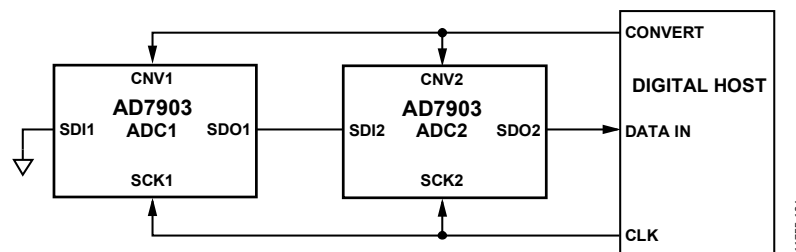
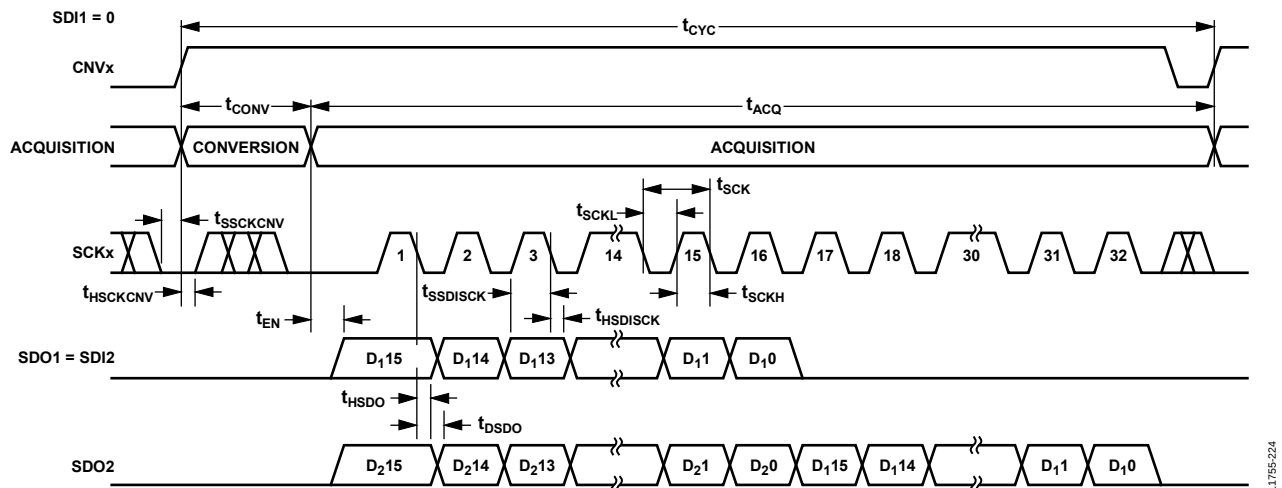
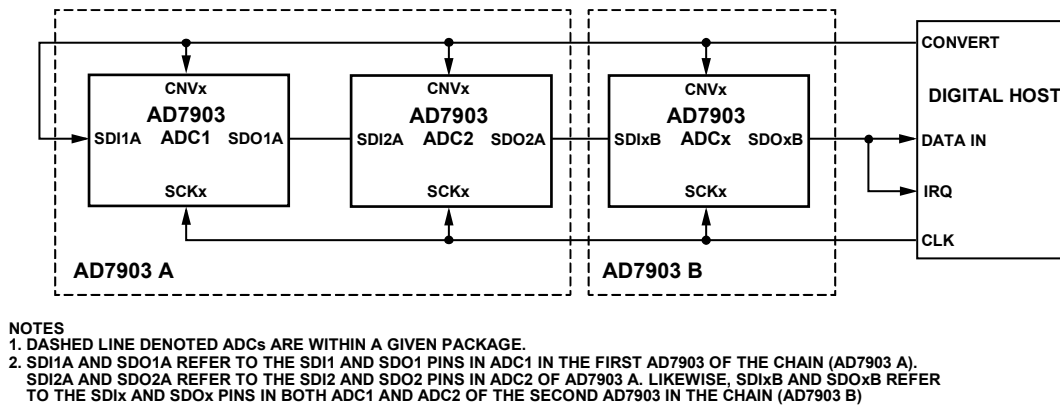
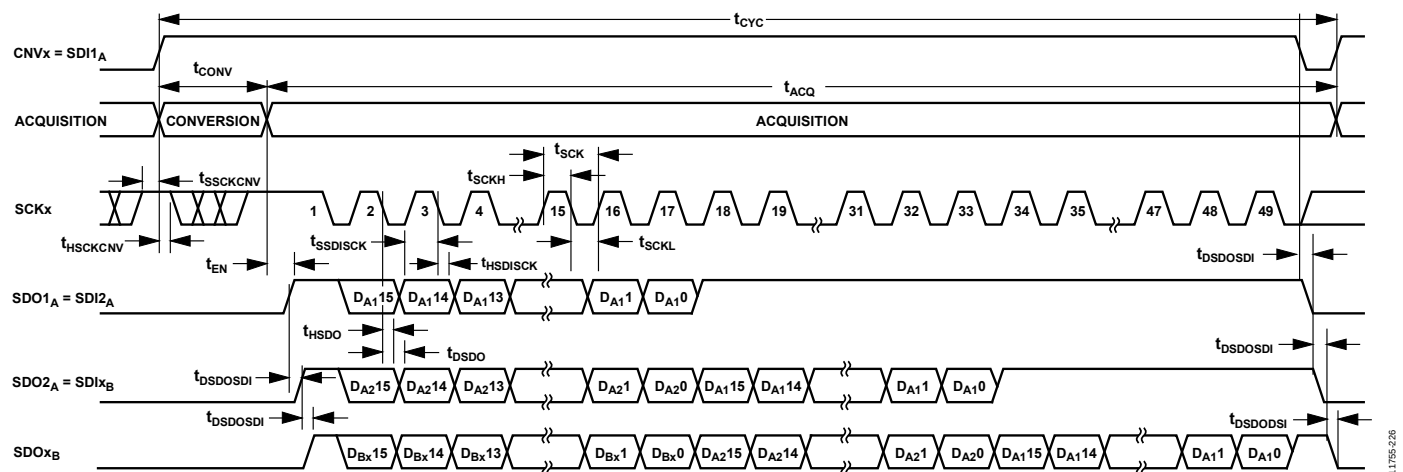

Figure 47. Chain Mode Without Busy Indicator Connection Diagram
Figure 48. Chain Mode Without Busy Indicator Serial Interface Timing
Figure 49. Chain Mode with Busy Indicator Connection Diagram
Figure 50. Chain Mode with Busy Indicator Serial Interface Timing
- In chain mode if SCKx is high during the CNVx rising edge (see Figure 50).
See Figure 47 for a connection diagram example using both ADCs in an AD7903. The corresponding timing is shown in Figure 48.
See Figure 49 for a connection diagram example using three AD7903 ADCs. The corresponding timing is shown in Figure 50.
conversions, the SDOx pin of the ADC closest to the digital host (see the ADC labeled ADCx in the AD7903 B box in Figure 49) is driven high. This transition on SDOx can be used as a busy indicator to trigger the data readback controlled by the digital host. The AD7903 then enters the acquisition phase and powers down. The data bits stored in the internal shift register are clocked out, MSB first, by subsequent SCKx falling edges. For each ADC, SDIx feeds the input of the internal shift register and is clocked by the SCKx falling edge. Each ADC in the chain outputs its data MSB first, and $16 \times N + 1$ clocks are required to read back the N ADCs. Although the rising edge can be used to capture the data, a digital host using the SCKx falling edge allows a faster reading rate and, consequently, more ADCs in the chain, provided that the digital host has an acceptable hold time.
Alternatively, for applications where simultaneous sampling is required but pins on the digital host are limited, the two user interfaces on the AD7903 can be connected in one of the daisy-chain configurations shown in Figure 47 and Figure 49. This daisy chaining allows the user to implement simultaneous sampling functionality while requiring only one digital host input pin. This scenario requires 31 or 32 SCKx falling edges (depending on the status of the busy indicator) to acquire data from the ADC.